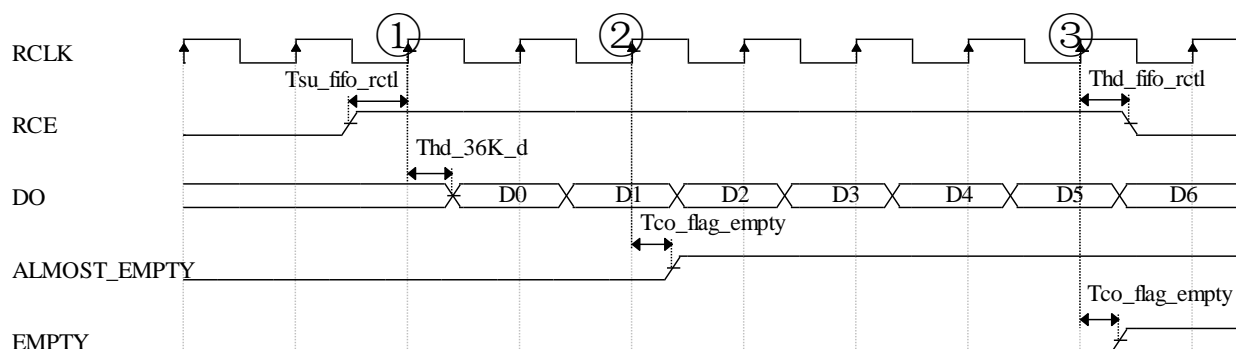

Figure 7-7 Read Timing from Almost Empty Asynchronous FIFO
When the FIFO is almost empty and the difference between the write and read pointers equals to the set value, ALMOST_EMPTY is set to 1 in advance (rising edge ② in Figure 7-7), according to the configuration of ALMOST_FULL_OFFSET. When the FIFO is empty (rising edge ③ in Figure 7-7), the read pointer will not increase, and the EMPTY signal is immediately set to 1.
Figure 7-7 shows the read timing from almost empty asynchronous FIFO: